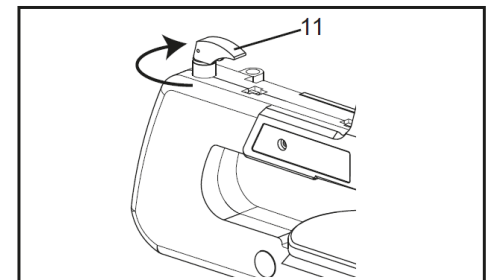

Fig. 4
Push the Blade tension release lever (11) downward. Increase the tension on the blade by turning the Blade tension release lever (11) clockwise until the blade will “sing” when plucked. To reduce tension, turn the Blade tension release lever (11) counterclockwise. To avoid breaking the blade during use, do not over tighten (Fig. 4).